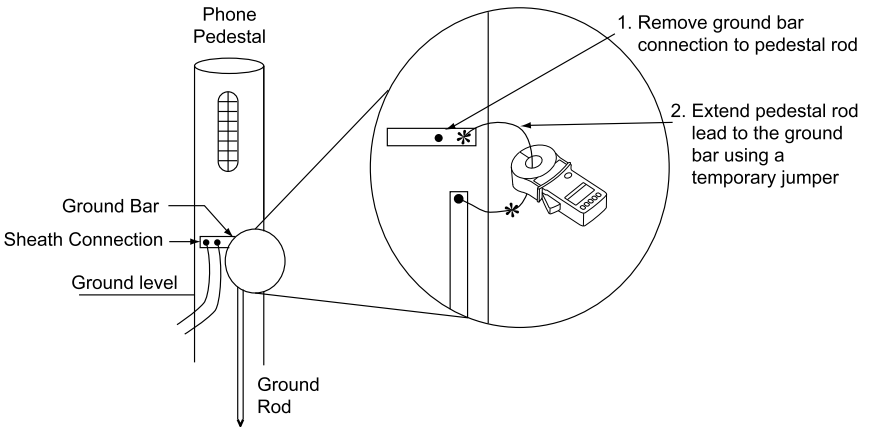

Figure 30
**Note:** If not enough room is available for this task refer to Fig. 30 and continue with this example. The clamp must be placed so that the jaws are in an electrical path from the sheath bond(s) or ground bar to the ground rod(s) as the circuit provides.